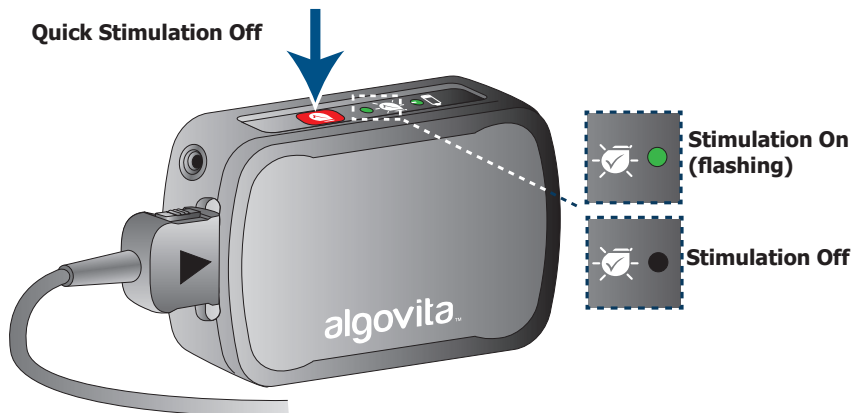

Figure 4. Quickly turning stimulation off
- Press the **Quick Stimulation Off** button (Figure 4) and hold for approximately 2 seconds. After a short delay, stimulation turns off, and the Stimulation On/Off light turns off.